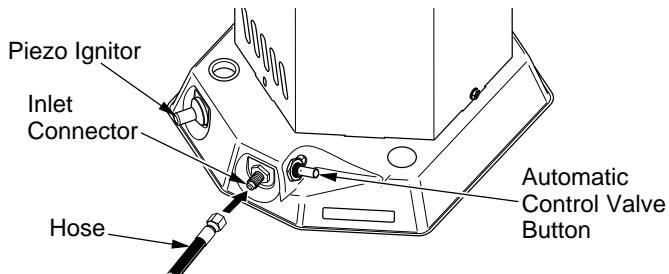

Figure 3 - Hose and Inlet Connector, Automatic Control Valve Button and Piezo Ignitor Button Locations
3. Connect hose to inlet connector (see Figure 3). Tighten firmly using a wrench.
6. Push in and hold automatic control valve button (see Figure 3). Push and release piezo ignitor button (see Figure 3). Keep pushing piezo ignitor button until the burner lights. Hold control knob down for a maximum of 10 seconds while attempting ignition. If heater does not light, release control knob and wait 30 seconds. Repeat step 6 to start heater. **Note:** Keep hands and face away from outlet (around top of shell) of heater while attempting to start heater. After ignition, hold control knob down for approximately 30 seconds. This activates the automatic control system.